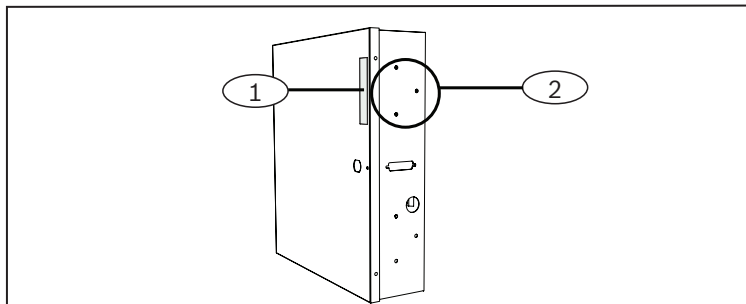

Figure 2.1: Removing enclosure knockouts
2. Use a punchout tool to remove the 3-hole pattern knockouts on the enclosure side wall. Refer to *Figure 2.1* for knockouts.
4. Insert the plastic LED cover into the enclosure door. Refer to *Figure 2.1* for the B46 LED cover knockout location.